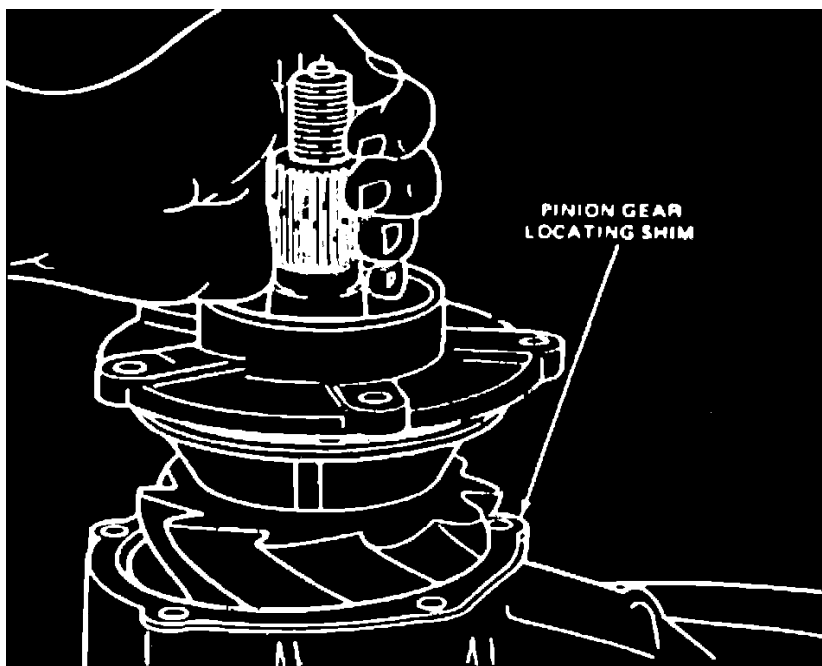

Fig. 7 Installing Pinion And Retainer Assembly
4. Position selected shim on carrier housing and install pinion and retainer assembly, being careful not to pinch O-ring, **Fig. 7**.